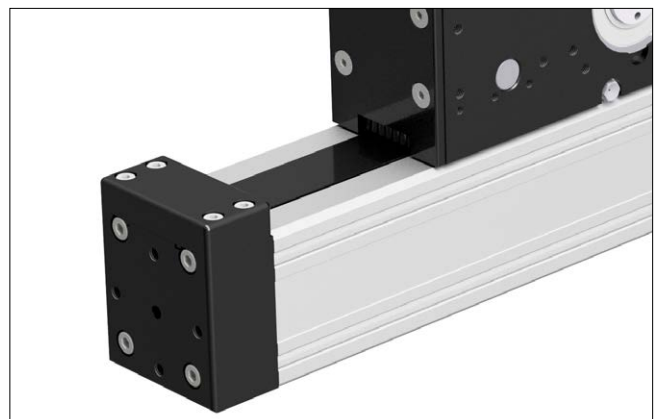

Figure 5.2 ___ AXF with toothed belt / Ω - drive
- Compact linear axis for the use as lifting axis for low and medium loads (Figure 5.2)